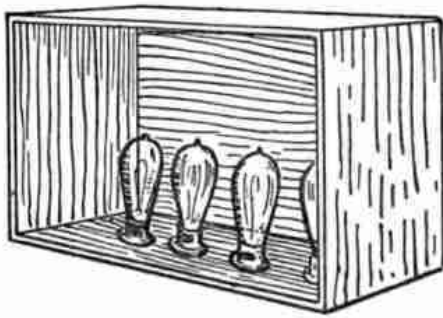

Fig. 88
19. *Electric Bedroom Heater*.—One of the boys constructed a heater for his own room as follows: He procured a box eight inches deep by eighteen inches square on the bottom. This he lined with asbestos paper. He then stood it upon its side and arranged four incandescent light sockets as shown in Fig. 88. These were connected by a flexible cord to a plug which he